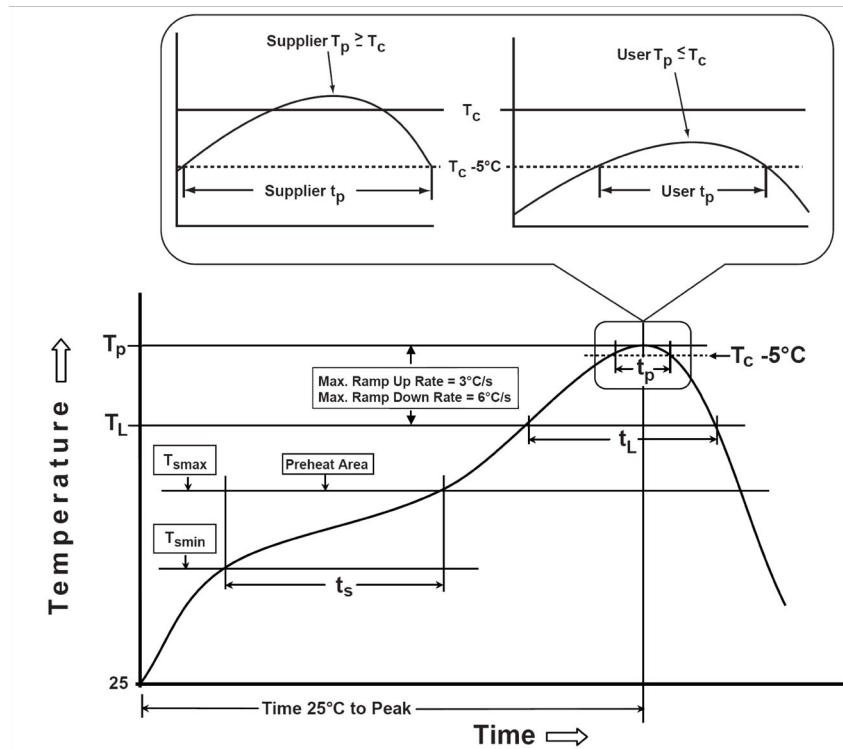

Figure 12. Peak Reflow Profile
- See Table 1 and Figure 12.
Time ( $t_p$ ) within 5°C of the specified classification temperature ( $T_C$ ); see Figure 12	30 seconds max.